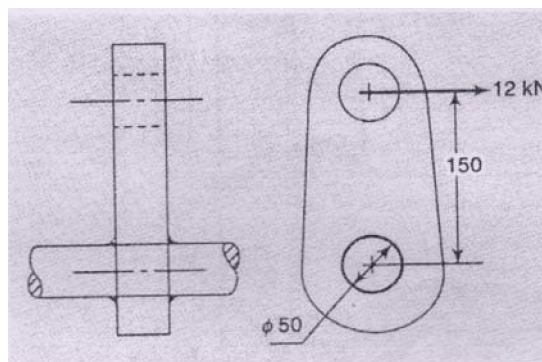

Figure 5
- b) Determine the torsional stress in the weldment as shown in figure 5. This is a case where a crank is made of a plate whose one end is welded to a shaft while other end is subjected to a tangential force of 12kN. Take weld thickness = 5mm and overload factor = 1.2. [8]